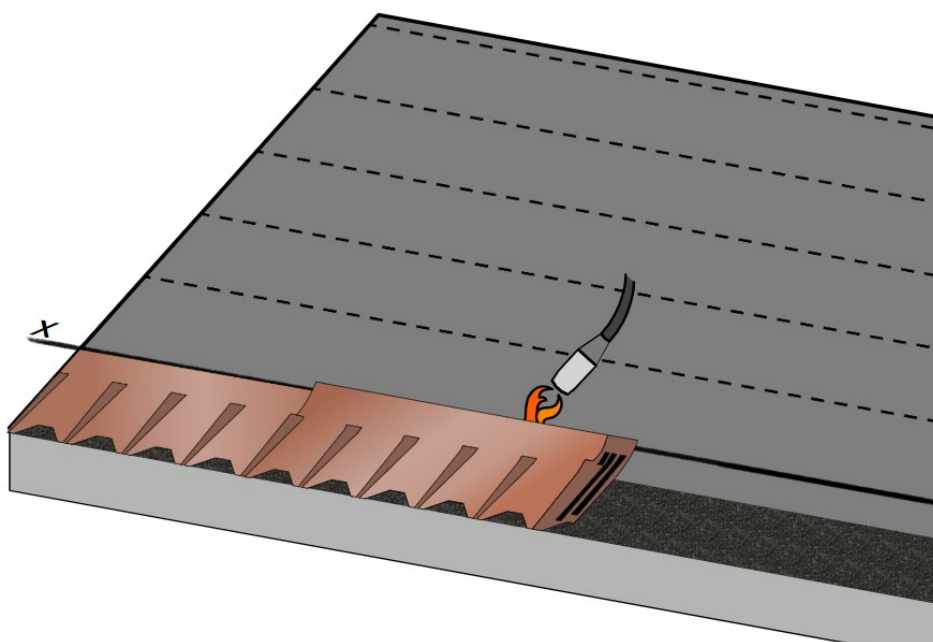

Fig. 23 - Installation of the second Master Coppo shingle by torch
- Proceed with the installation of the second Master Coppo shingle: overlap the second Master Coppo shingle with the lateral edge of the first shingle already installed and proceed to fix it with the torch according to the previous instructions - Fig. 23.